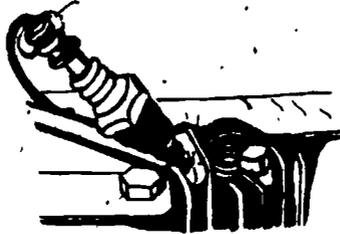

FIGURE 3
- E. Ground spark plug to engine (Figure 3)